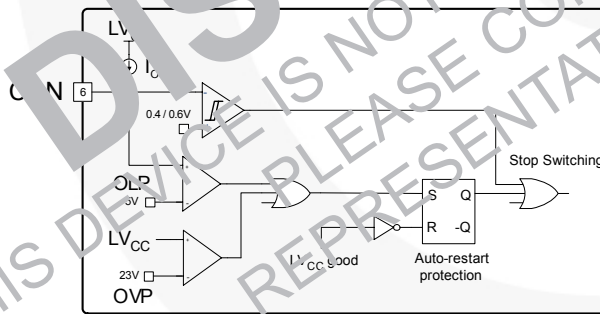

Figure 21. Internal Block of Control Pin
**4. Control Pin:** The FAN7621B has a control pin for protection, cycle skipping, and remote on/off. Figure 21 shows the internal block diagram for control pin.